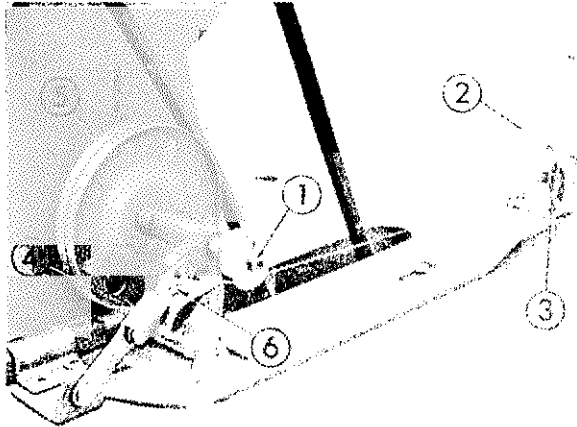

Fig. 8
8. How to wind the bobbin (Fig. 8)
Fasten the bobbin winder to the table as shown in Fig. 8. Be sure to fasten the pulley (5) so that it will be contacting the belt correctly at the winding position. To wind the bobbin, first, insert the bobbin into the pulley shaft (1) as far as it will go. Then, after passing the thread through the eyelet (2) of the thread guide on the tension bracket, pass it between the 2 thread tension discs (3) towards you from the back side, then pull out this thread and wind the tip of this thread into the bobbin from under-side several times around. Then, if the trip latch (4) is pressed, it will press down the bobbin and the pulley will contact the belt and with the rotation of the machine, the pulley will also rotate. When sufficient amount of thread is wound, the trip latch will be released and the rotation of the pulley will stop. The amount of wound thread can be regulated by the screw (6). This winding process can be performed during the running of the machine.